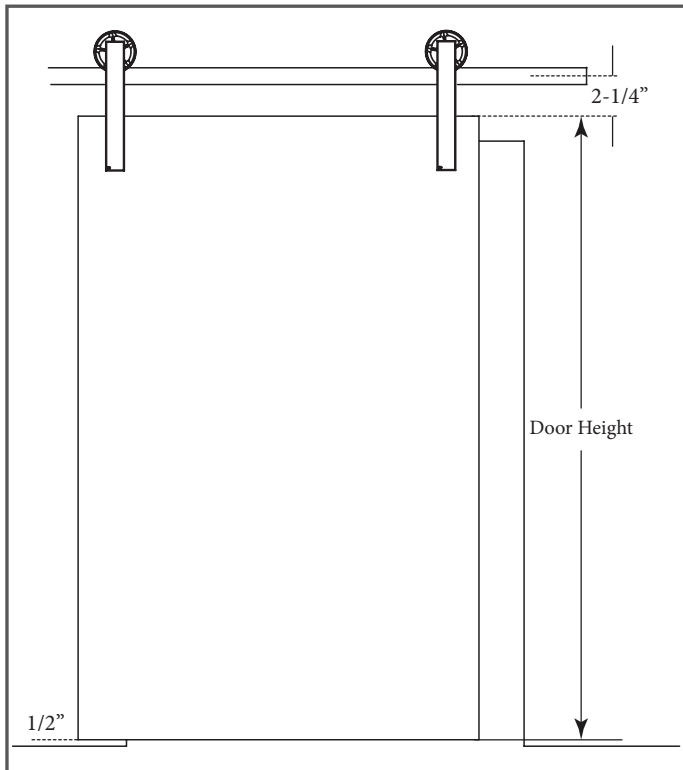

Figure 1
1. To determine where the track should be installed, first measure the height of the door, then add 2-3/4" to the door height. 1/2" will be for the clearance between the bottom edge of the door and the floor. 2-1/4" will be from the top edge of the door to the center of the track. (Figure 1).